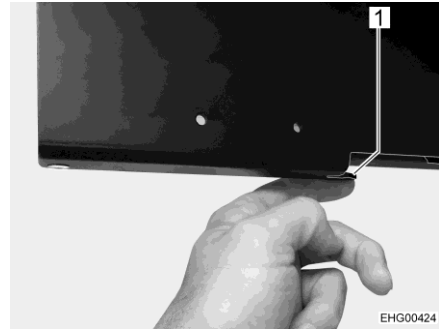

Fig. 95 Unlocking swivel mechanism
- To swivel the flat screen to the desired position: press black lever (Fig. 95,1) at the bottom of the pull-out plate and swivel flat screen.